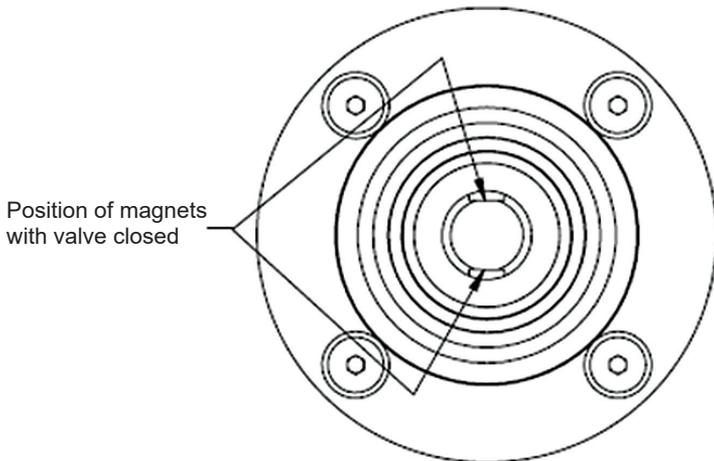

Figure 21 - Magnet Position with Valve Closed
5. Ensure the turnbuckle assembly is parallel to the stem and the magnets are in the valve closed position (Figure 21) and connect to take-off bracket.